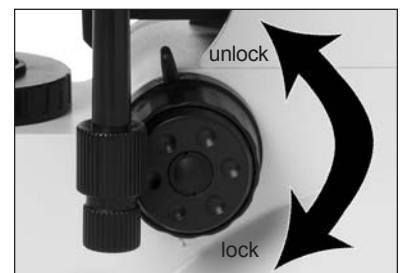

Figure 33
21. To adjust, first unlock the limit by rotating it counter-clockwise (figure 33). With the highest power objective in the light path adjust the stage until the image through the eyepieces is in focus then lock the limit by rotating the control clockwise until tight (figure 33). The upward motion of the stage when using the coarse focus controls is now limited to this point. The fine focus controls are not affected though and will still allow upward movement of the stage.